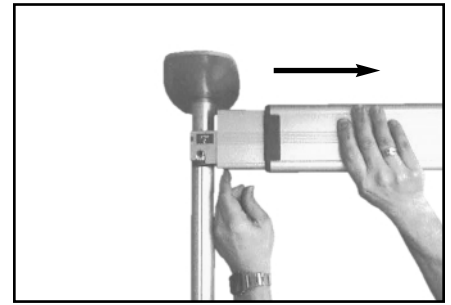

Figure 22
3. Using a step ladder, reach under the section of the rail labeled "Step 2". Pull the blue tab away from the post slightly to release the lock on the rail (Figure 22).